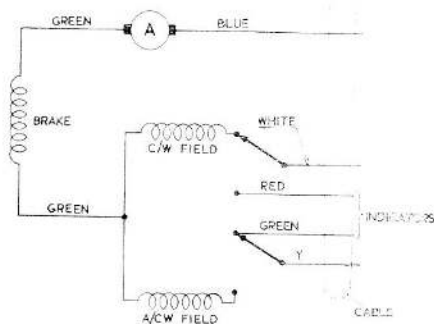

Fig. 2. Diagram of internal connections
3. Electrical connection is made by a 15 in. length of Quinpremet 6 cable which is taken through a gland entry screwed to the housing; the internal connections are as shown in *fig 2*.